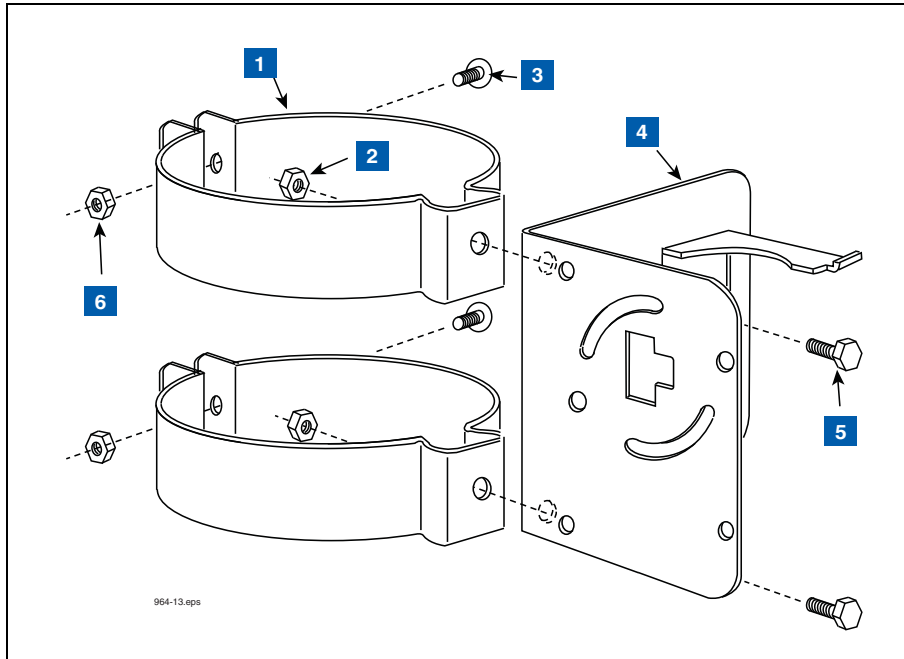

Figure 13. Attaching Hangers To Battery Pack Support Bracket
1. Connect the two conduit hangers from the kit (2- or 4-inch as required) to the battery pack support bracket as shown in Figure 13.
LEGEND FOR NUMBERED BOXES IN Figure 13